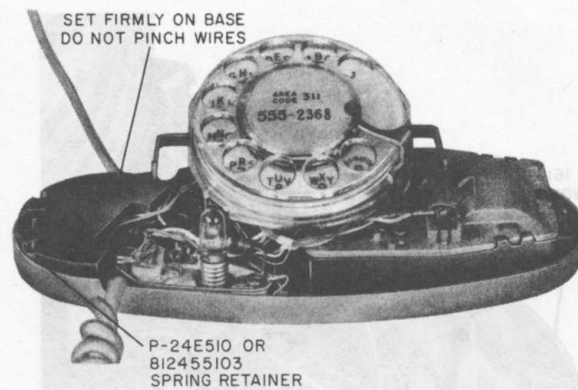

Fig. 11—Location of P-24E510 or 812455103 Spring Retainer and P-15E719 or 811557198 Weight
- (4) Install P-15E719 or 811557198 weight and P-24E510 or 812455103 spring retainer as shown in Fig. 11.
- (5) Replace telephone set housing.